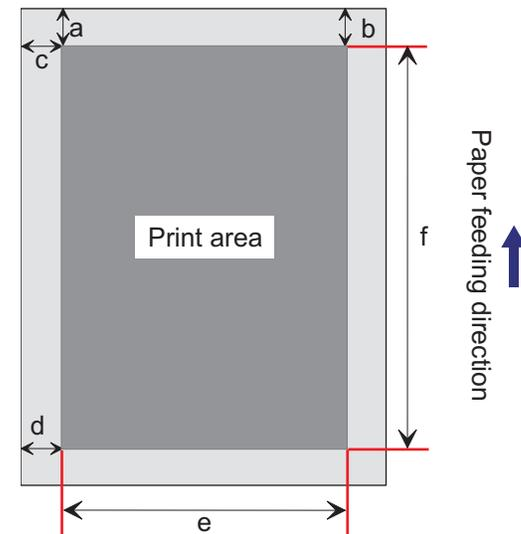

Figure 1-5. Paper Skew
See Figure 1-5.
- Paper skew: See Figure 1-5 and Table 1-9.